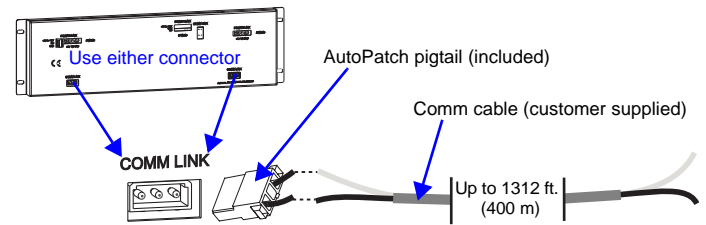

FIG. 3 Comm Link connector & wiring
- On the rear of the panel, plug the AutoPatch pigtail into either Comm Link connector (FIG. 3).